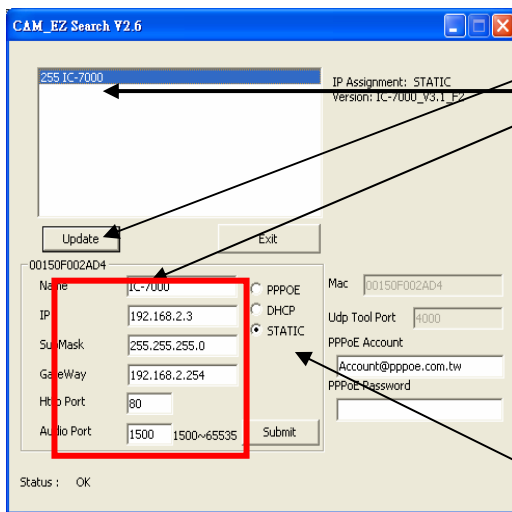

Figure 3
- Open and execute CAM\_EZ Search (as shown in Figure 3). The system will scan the IP-CAM that you just installed automatically. Then, you will find 255IC-7000 in the column of Camera Lists. Click 255IC-7000 with left mouse button. You can see the default settings for IP-CAM.